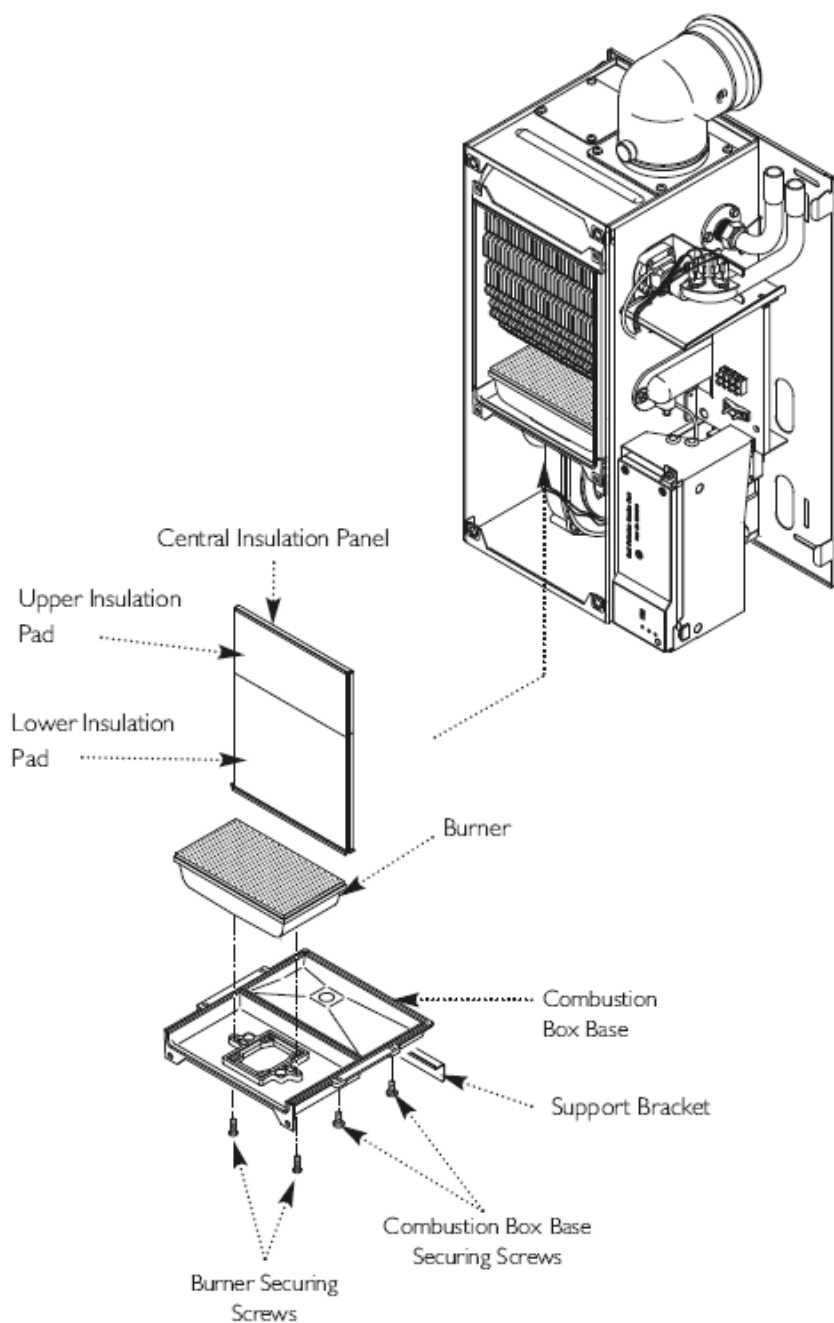

Fig. 60
15.12 Heat Exchanger Lower Insulation Pad (Fig. 60)
15.13 Heat Exchanger Upper Insulation Pad (Fig. 60)